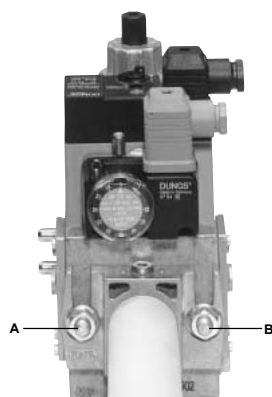

Fig. 5
3. tighten screws A, B, C and D (Fig. 5 - Fig. 6), according to the mounting positions (Fig. 8);